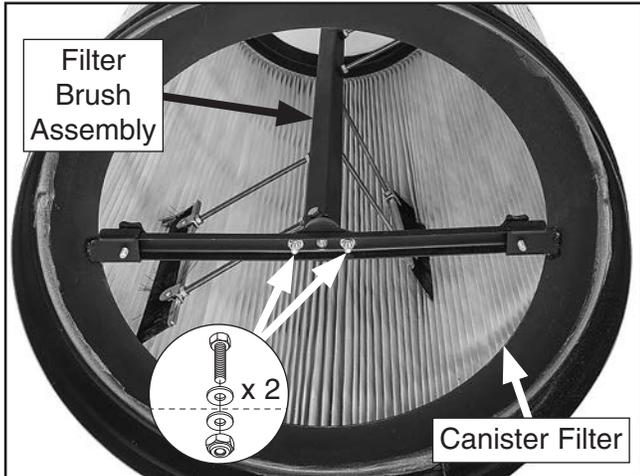

Figure 28. Canister filter attached to filter brush assembly.
28. Slide canister filter over filter brush assembly, then attach, using pre-installed (2) 1/4"-20 x 1" hex bolts, (4) 1/4" flat washers, and (2) 1/4"-20 lock nuts (see **Figure 28**).